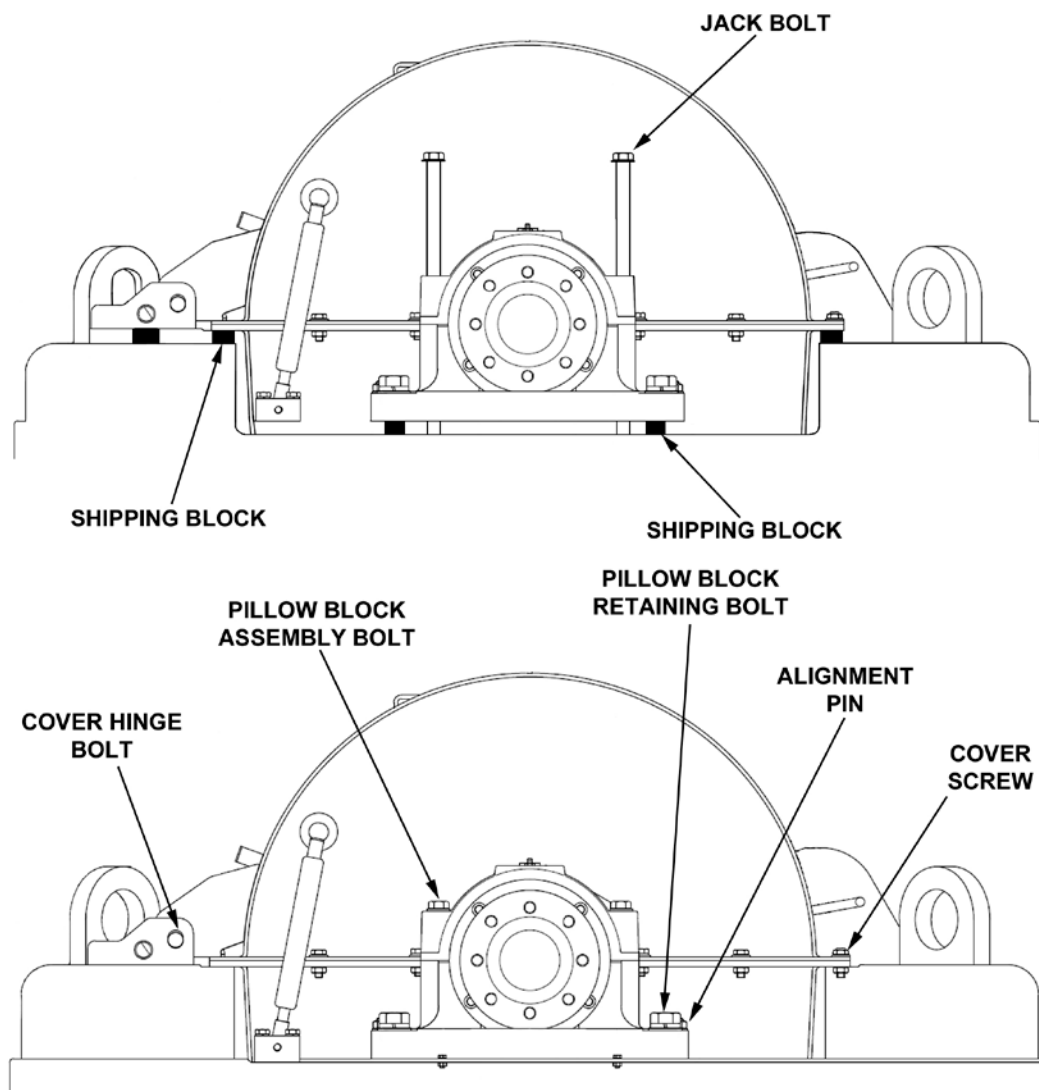

Figure 3-8. Lowering and Securing Rotating Assembly
2. Remove bolts securing bearing pillow blocks to base and bolts securing upper halves of pillow blocks to lower halves (Figure 3-8).